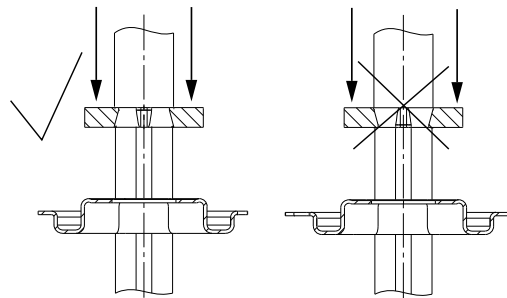

Fig. 24 Fitting the stop ring
5. Fit O-ring (pos. 107) into the rotating shaft seal part (pos. 104). For correct lubricant, see section 3. *Tightening torques and lubricants*
6. Fit retainer (pos. 111) and stop ring (pos. 111a). See fig. 24.